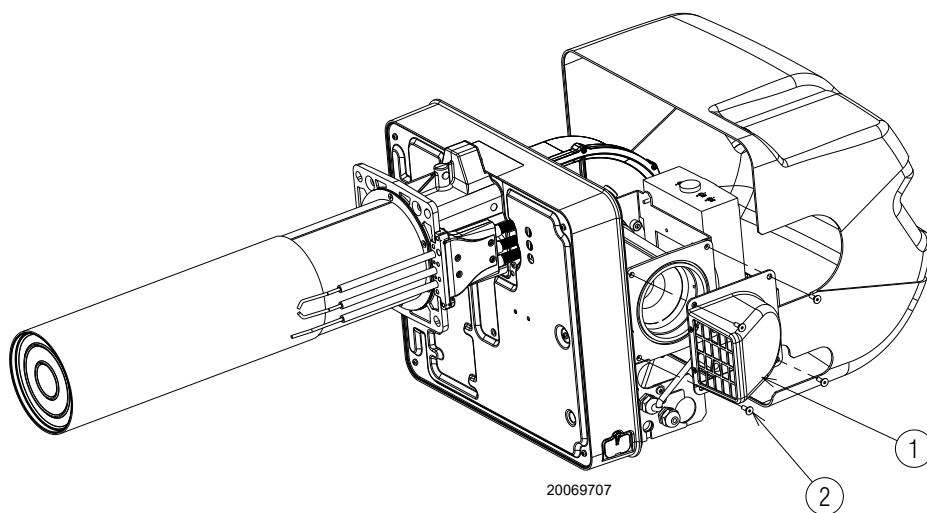
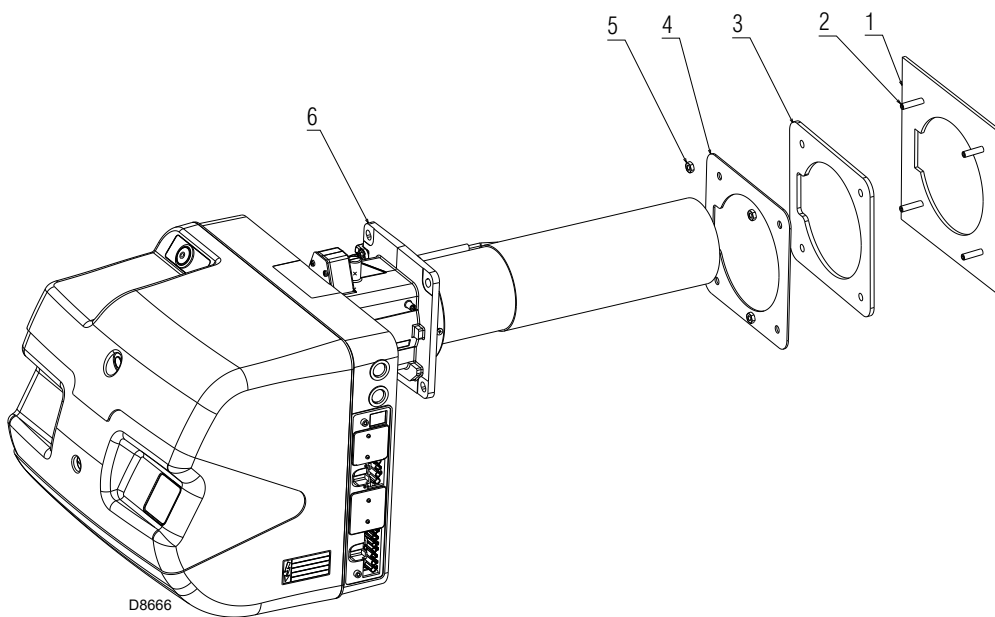

Fig. 17
Fig. 18
- Tighten the studs 2)(Fig. 18) on the plate 1).
- Fix the flange 2)(Fig. 17) to the boiler plate and tighten the nuts 5)(Fig. 18).